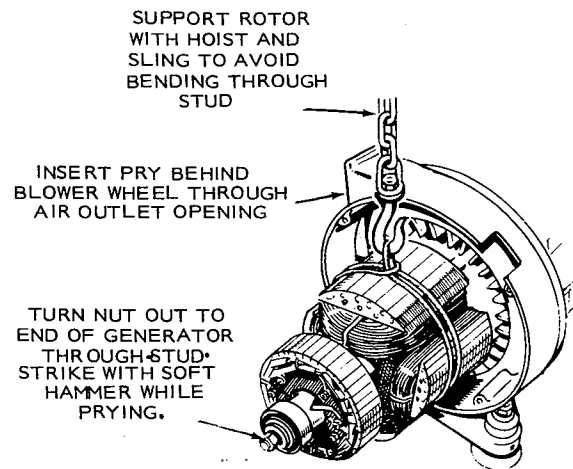

FIGURE 21. ROTOR REMOVAL
6. Remove baffle ring from adapter. Turn rotor-through-stud nut to end of stud. While pulling rotor outward with one hand, strike nut a sharp blow. Support rotor with hoist and sling to avoid bending rotor-through-stud, Figure 21. Use a heavy, soft faced hammer to loosen the rotor from its tapered shaft fit. If rotor does not come loose, strike it a sharp downward blow in center of lamination stack. Rotate rotor and repeat until it comes loose. Be careful not to hit bearing or windings.